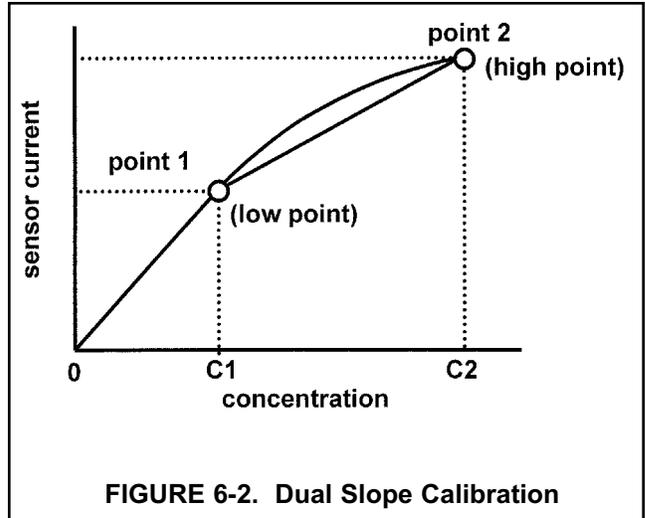

FIGURE 6-2. Dual Slope Calibration
Figure 6-2 shows the principle of dual slope calibration. Between zero and concentration C1, the sensor response is linear. When the concentration of chlorine becomes greater than C1, the response is non-linear. In spite of the non-linearity, the response can be approximated by a straight line between point 1 and point 2.
Adjust the concentration of chlorine until it is near the upper end of the linear response range of the sensor. (pt1 in Figure 6-2).
13. Adjust the concentration of chlorine until it is near the top end of the range (pt2 in Figure 6-2).